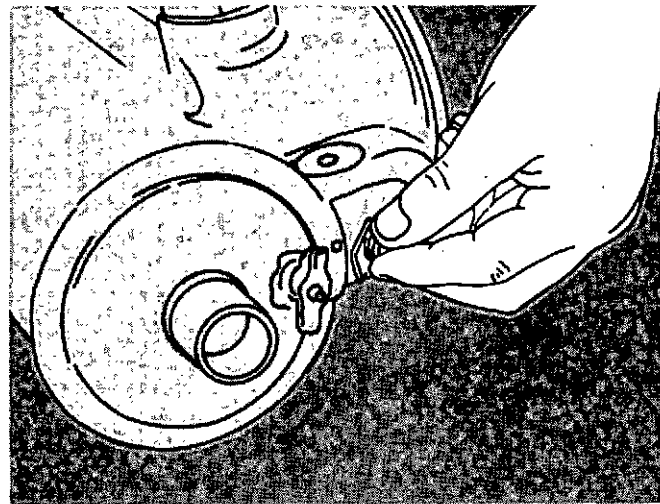

Fig. 7-28. Remove The Retaining Plate.
3. From the opposite end of the cooler housing, remove the plate that holds the element in the housing, Fig. 7-28.